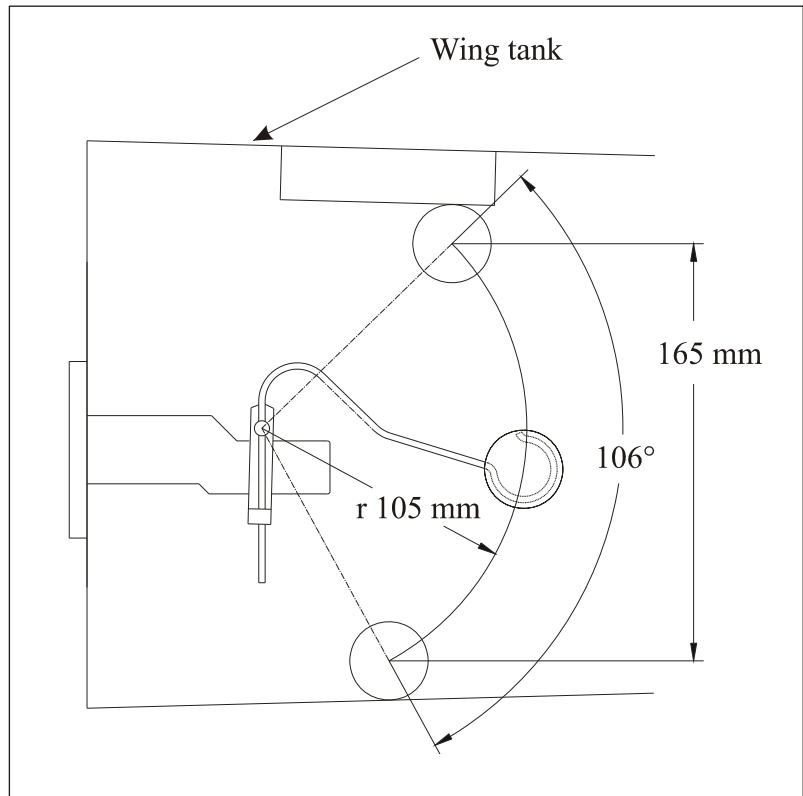

Figure 19 **Float Wire Installation**
- 3 Reinstall the float wire observing the distances shown in Figure 19, pay attention to a proper alignment and tighten well the attachment bolt.